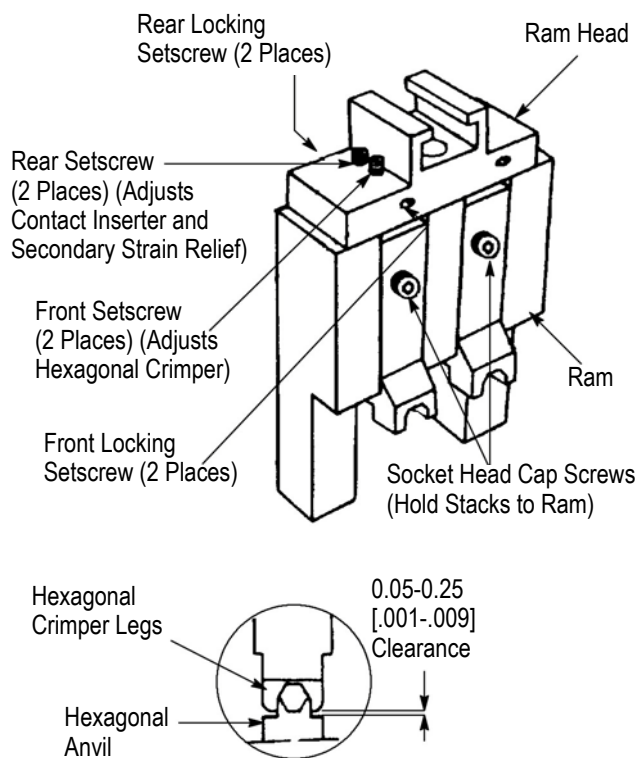

Figure 3
If adjustment is required to obtain proper crimp height, refer to Figure 3 and the applicable application specification, and proceed as follows:
3. Check the clearance between the hexagonal crimper legs and the hexagonal anvil with a piece of thin paper. Clearance must be within the dimensions given in Figure 3. If adjustment is required, slightly loosen the socket head cap screws at the front of the ram and the front locking setscrews at the front of the ram head. Then rotate the front setscrews to adjust the hexagonal crimper.